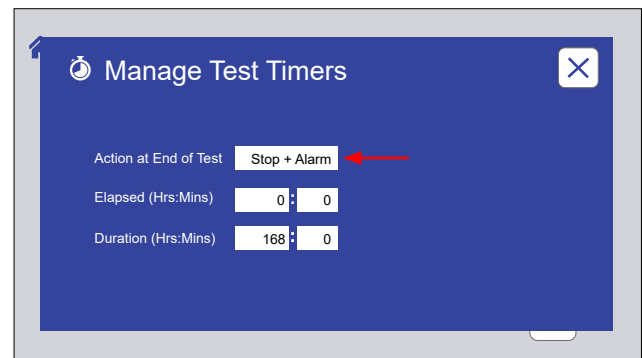
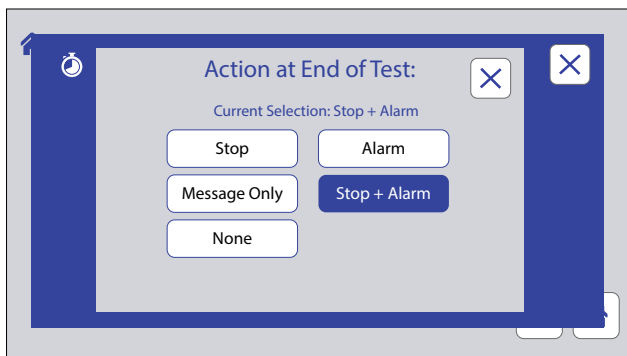

Figure 8.6b: Manage Test Timers screen. Touch the Action at End of Test text box to specify the action.
Figure 8.6c: Action at End of Test screen. Touch an action button to select that action.
1. Specify what action the tester should perform at the end of a test (Figure 8.6b and Figure 8.6c).